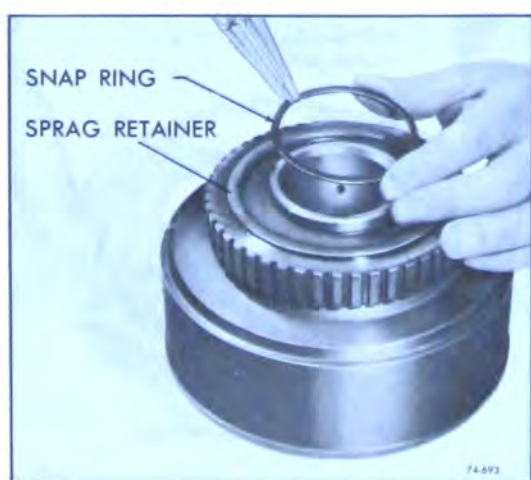

Figure 74-694
16. Install sprag retainer snap ring. See Figure 74-694.